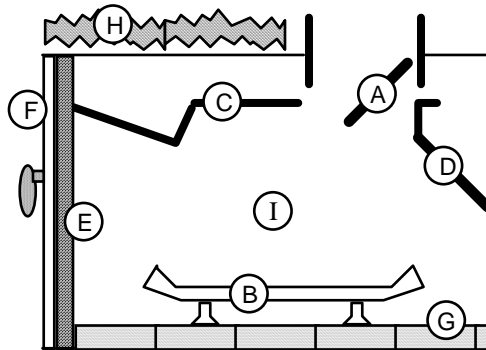

Figure 4
- The damper ("A") and grate ("B") must be removed (see Figure 4). The smoke shelf ("C"), internal baffles ("D"), screen ("E"), and metal or glass doors ("F") may be removed (if applicable). The masonry lining ("G"), insulation ("H"), and any structured rigid frame members (metal sides, floor, door frame, face of the fireplace, etc. – "I") may not be removed or altered